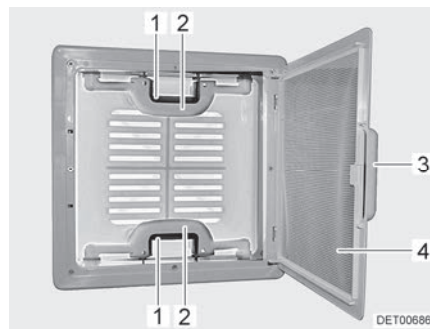

Fig. 16 Skylight with snap latch
- Pull on the handle (Fig. 16,3).
- Fold insect screen (Fig. 16,4) downward.
- Push the snap latch (Fig. 16,1) towards the inside of the skylight. At the same time use the handle (Fig. 16,2) to press the skylight upwards.
- Swing insect screen (Fig. 16,4) upwards until it latches in place.
- Using both handles (Fig. 16,2), pull down the skylight with force until the two snap latches (Fig. 16,1) lock into place.